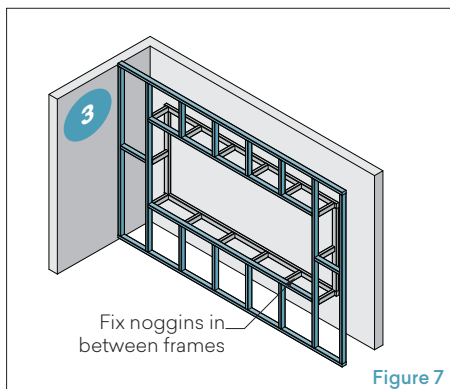

Figure 7
3. Fix noggins in between frames so that plasterboard or engineered timber board can be fixed. At this point, it is recommended to insulate the void around the speaker cavity as much as possible using bulk insulation or similar. The more material placed into the cavity, the better for sound energy absorption. (Figure 7)